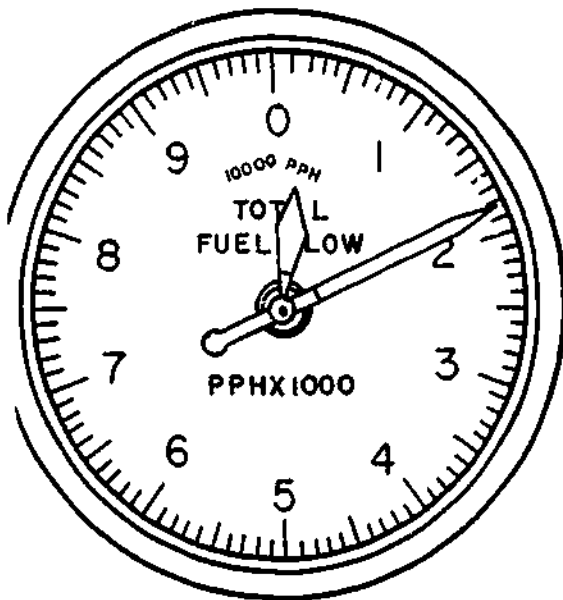

Figure 4.
Refer to figures 4 and 5 and circle the letter of the correct responses to the following statements.
1. The totalizer indicator (figure 4) indicates a fuel flow rate of